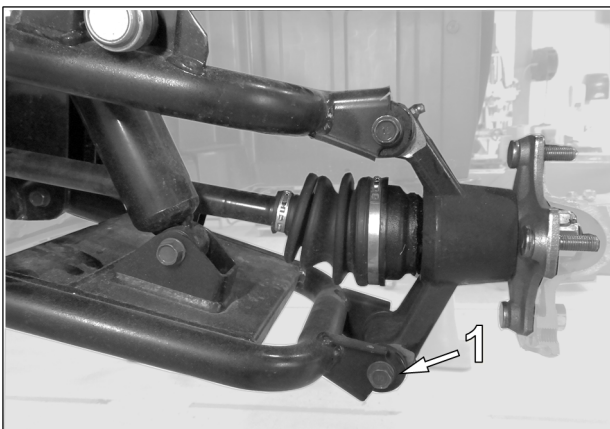

Fig. 6
5. Loosen and remove bolt (1) that links lower rear suspension arm to wheel hub. See Fig. 6